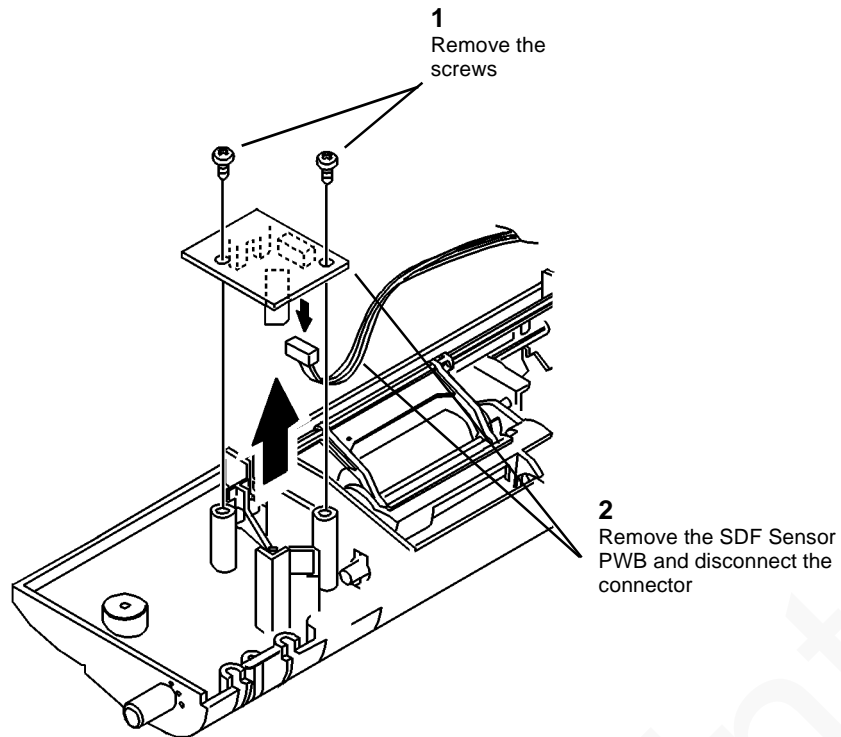

Figure 4 Removing the SDF Sensor PWB
4. (Figure 4): Remove the SDF Sensor PWB.